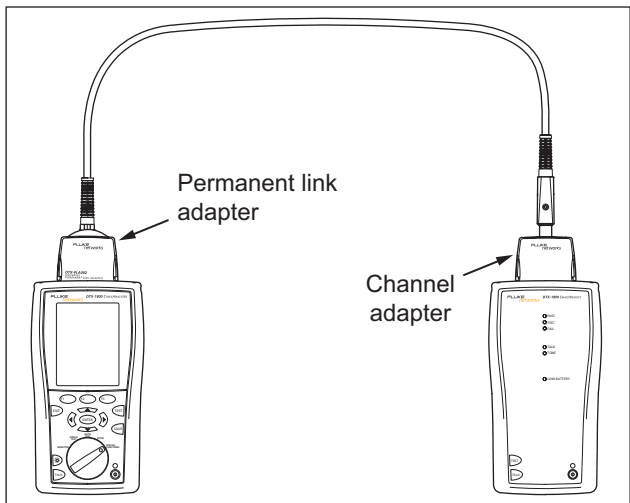

Figure 3-1. Twisted Pair Reference Connections for the DTX-1800, DTX-1200, and DTX-LT
- 1 Attach permanent link and channel adapters and make the connections shown in Figure 3-1.